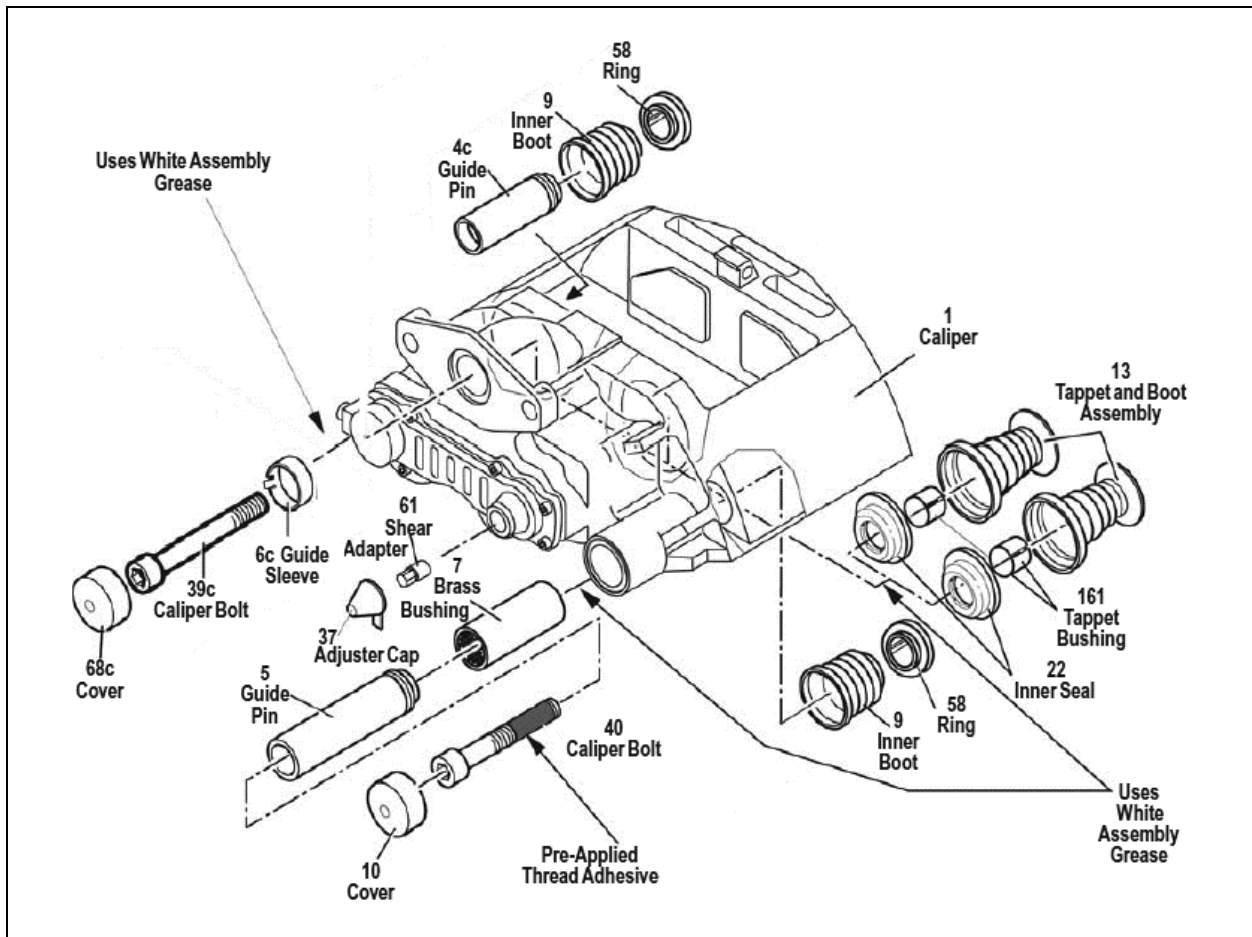

FIGURE 23: BRAKE COMPONENTS
At each pad replacement, make sure the caliper operates smoothly over its full range of movement. If the caliper shows the following signs, replacement of the guide sleeve (6c, fig 23), guide pin, screw (39) and cap is required.
Additionally, inspect the tappet and boot assemblies (13, Fig. 23), the adjuster cap (37) and the sealing elements (9, 58) for correct fitting and condition as well as the caliper bearing in the area of the rubber bush/guide sleeve (6) (see *KB Manual*).